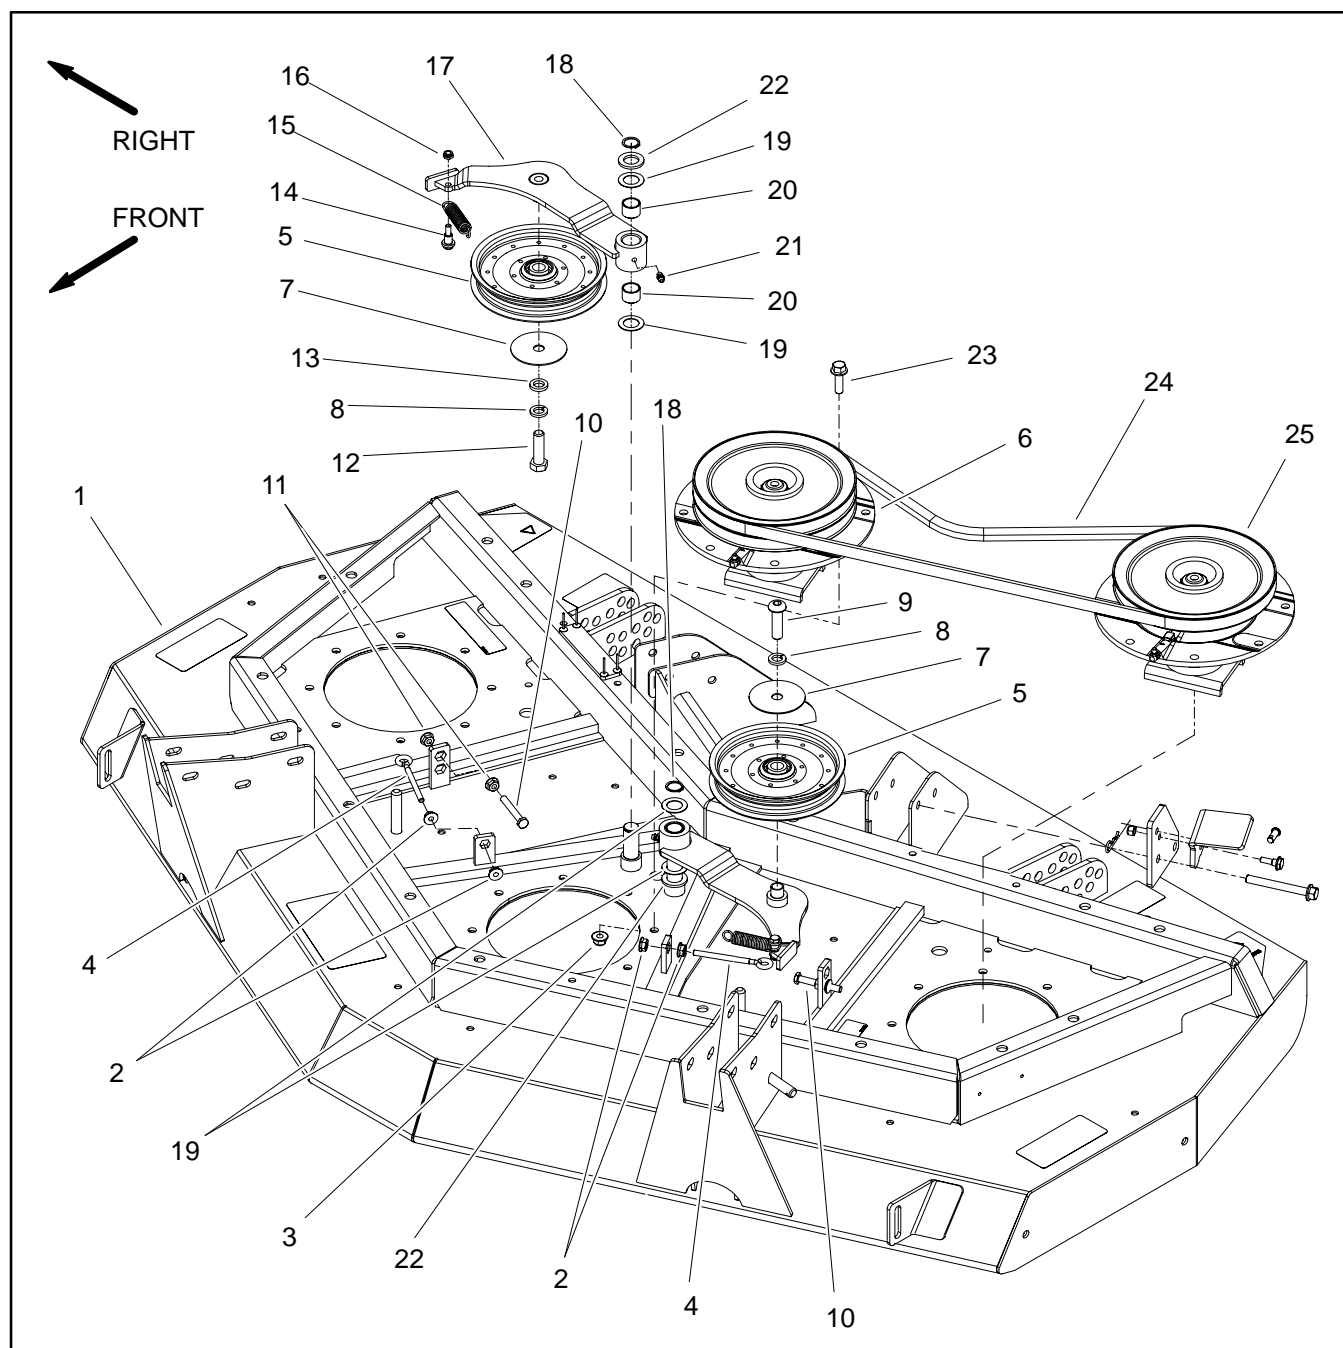
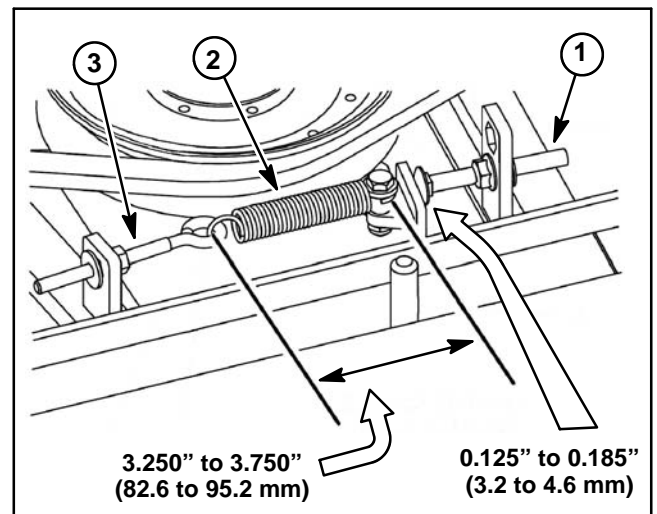

Figure 9
Figure 10
**NOTE:** The front deck is shown in Figure 9. The idler assemblies used on the wing decks use the same idler components.
### Removal (Fig. 9)
3. Use spring hook tool to unhook the idler spring (item 15) from the adjusting screw (item 4).
5. Loosen flange nuts (item 11) that secure idler stop bolt (item 10) to cutting deck to allow clearance between idler arm and stop bolt.
6. Remove idler components as needed using Figure 9 as a guide. Note location of washers, idler spacer and screw as idler assemblies are being removed.
### Installation (Fig. 9)
1. Install removed idler components using Figure 9 as a guide.
- A. Make sure that one (1) thrust washer (item 19) is placed above and below the idler arm. Location of additional washer (item 22) depends on whether the idler pulley mounts on the bottom side of the idler arm or on the top of the idler arm.
- C. If idler stop bolt (item 10) was removed from deck, make sure that it is installed in the hole that allows the stop bolt head to align with the idler arm.
3. Use spring hook tool to attach the idler spring (item 15) onto the adjusting screw (item 4) and shoulder bolt on idler arm.
4. With the idler arm tensioning the drive belt, the idler spring hook to hook length should be from 3.250" to 3.750" (82.6 to 95.2 mm) (Fig. 10). If necessary, disconnect spring and change position of adjusting screw. When idler spring is the correct length, tighten second flange nut to secure idler adjustment.
5. Adjust location of idler stop bolt so that the clearance between idler arm and idler stop bolt head is from 0.125" to 0.185" (3.2 to 4.6 mm) (Fig. 10).